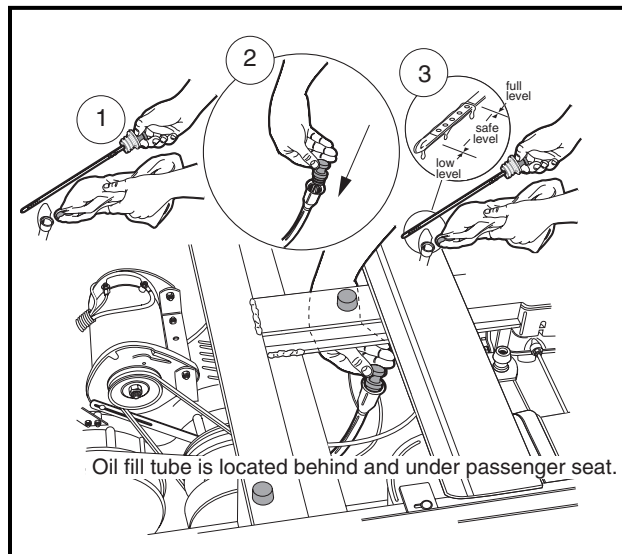
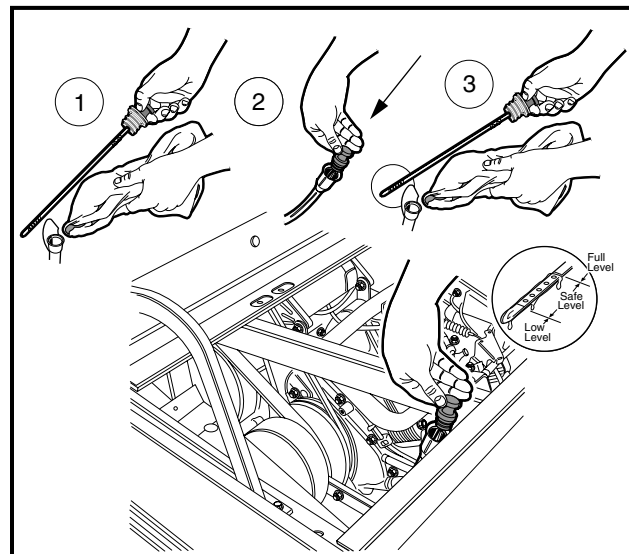

Figure 10-3 Bobcat 2100 Oil Level Check
Figure 10-4 Bobcat 2100S Oil Level Check
1. Remove the oil level dipstick from the oil filler tube and wipe oil from the stick (**Figure 10-3, Page 10-4** or **Figure 10-4, Page 10-4**). **See following CAUTION.**